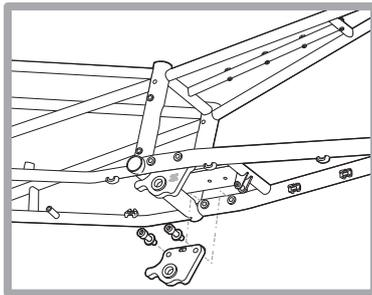

Figure 3
3. Identify drive side and non-drive side frame mounting plates. Note: The Surly logo should face the outside. Mount plates to frame using M8x1.25-30L bolts and M8 washers. Use a 6mm hex wrench and tighten to 15Nm (Figure 3).